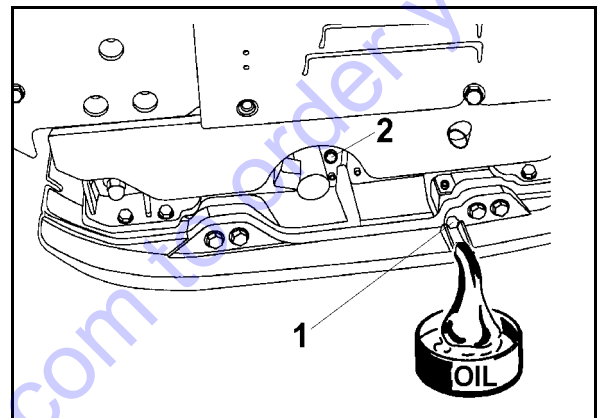

Fig. 60
- Unscrew oil level inspection plug 1 (Fig. 60) and check the oil level.